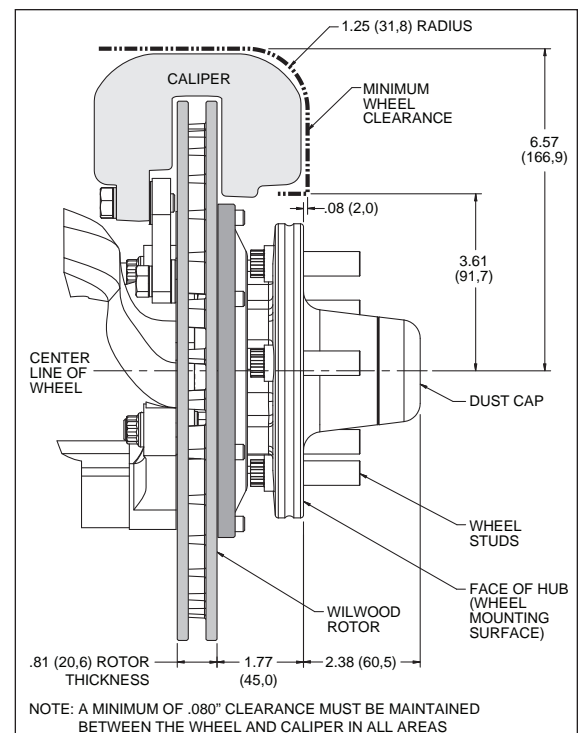

Figure 2. Wheel Clearance Diagram
- Review the Wheel Clearance Diagram (Figure 2, page 3) to verify that there is adequate clearance with the wheels you will be using with the installation.
- Verify wheel clearance utilizing Figure 2.
- **WARNING:** The wheel contact surfaces must seat completely on the face of the hub. If any contact surfaces overhang the outside diameter of the hub face, a 6.60" diameter x .20" thick steel spacer (item 24, Wilwood P/N 300-11961) MUST be used between the wheel and the hub.